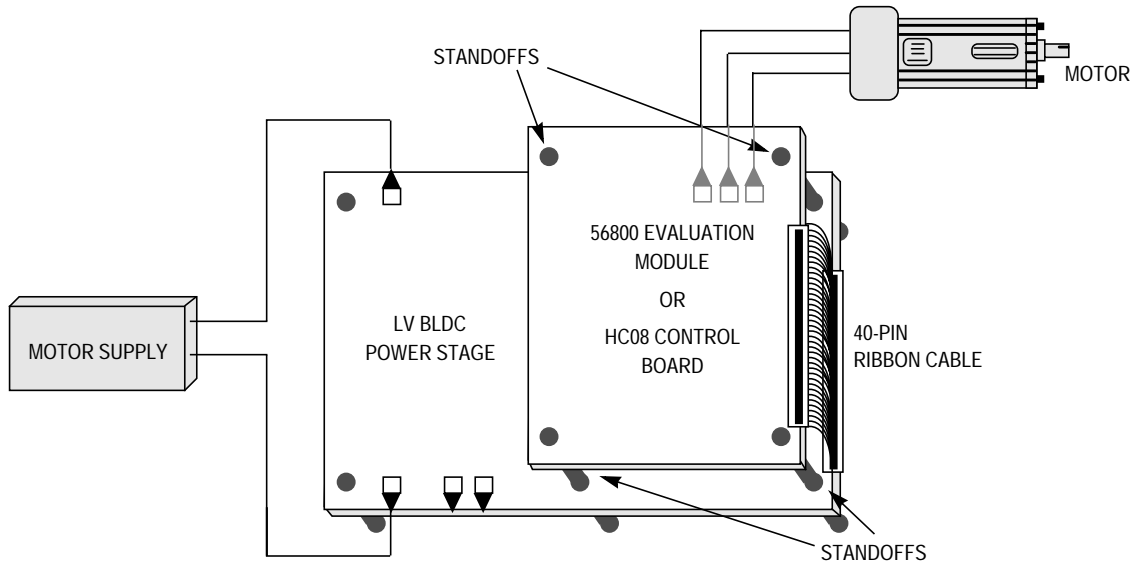

Figure 1-3. Setup
Setup and connections are very straightforward. The LV BLDC power stage connects to an embedded motion control series control board via 40-pin ribbon cable. The motor's power leads plug into output connectors, J16 – J18, and its Hall sensors plug into the control board's Hall sensor/encoder input connector. **Figure 1-3** depicts a completed setup.
1. Mount four standoffs to the LV BLDC Power Stage at the locations indicated in **Figure 1-3**. Standoffs, screws, and washers are included in the kit.